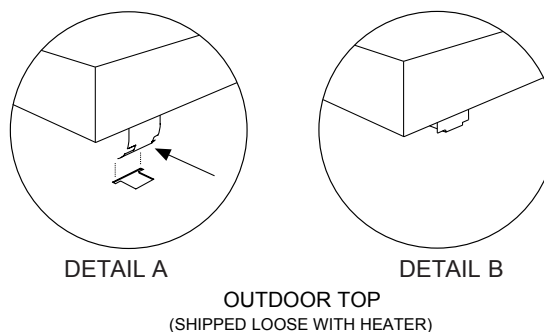

Figure 4. Outdoor Top Installation
1. Insert tabs into keyhole (4 places). See **Figure 4**, detail A.
2. Snap tabs into keyholes so as not to pull out. See **Figure 4**, detail B.